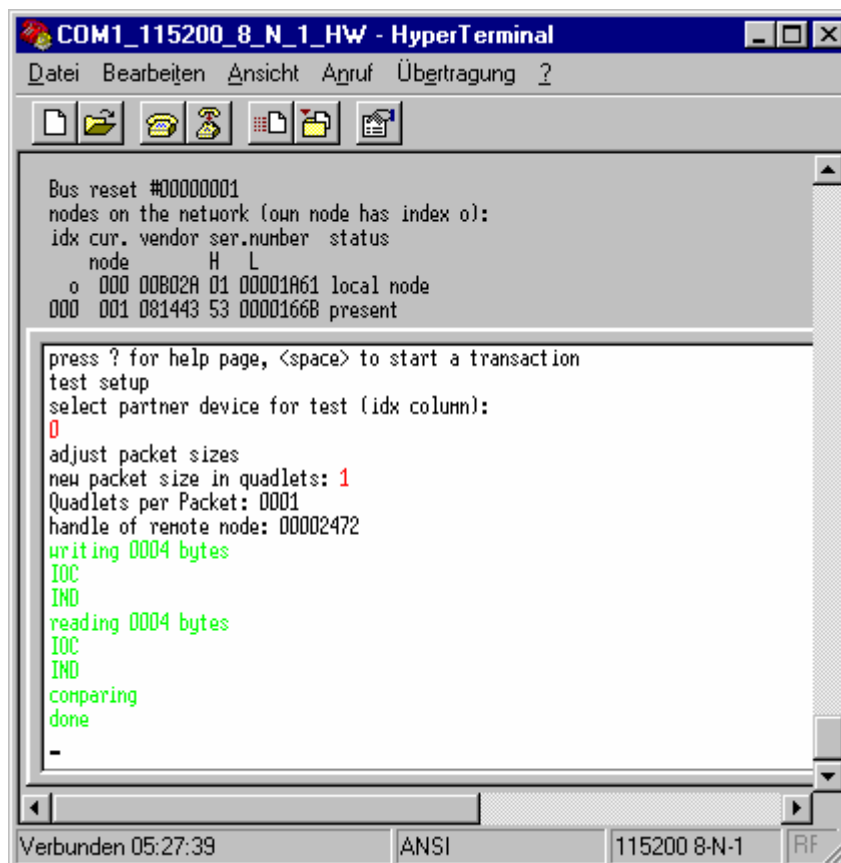

Figure 22: Outgoing asynchronous transactions (terminal window)
In the terminal window (see Figure 22):
- In the terminal, the callbacks involved in the transaction display some short messages, as shown in Figure 22